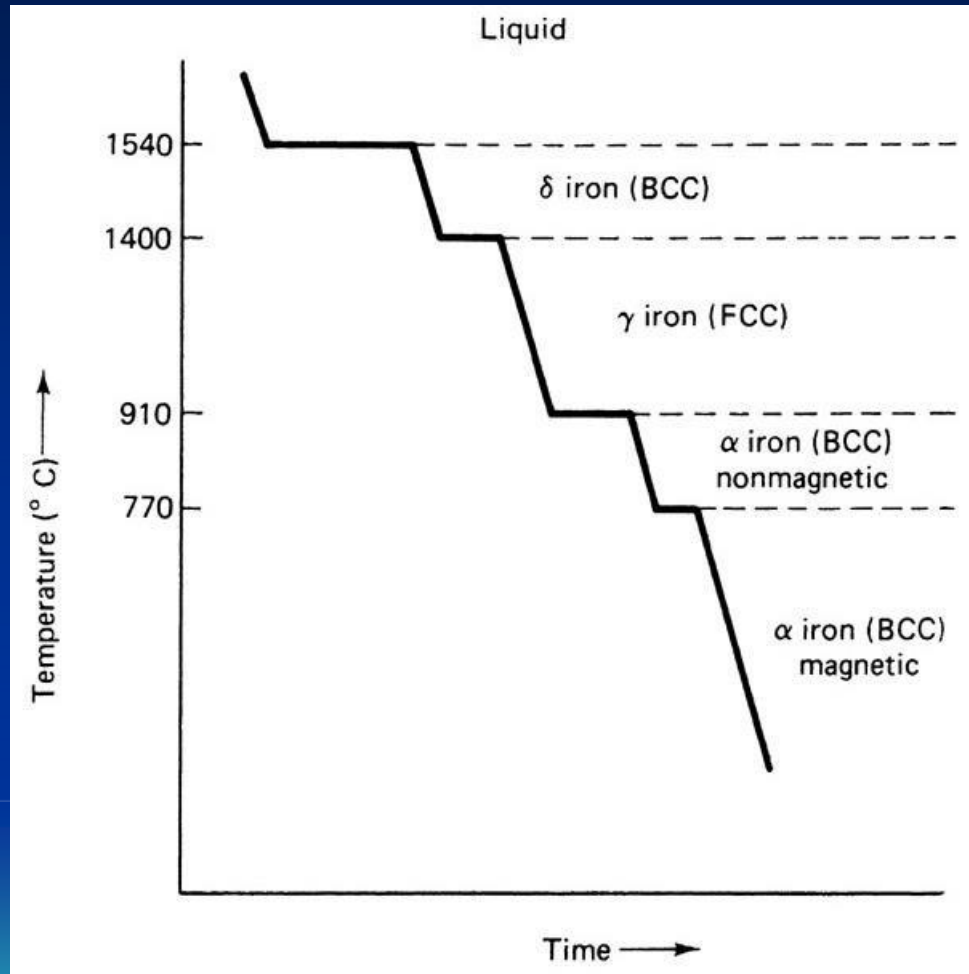

FIG. 3-50 (b) Cooling curve for pure iron.
FIG. 3-50 (1) Heat pure metal to point T_a ; (2) cooling of liquid metal $a-b$; (3) at point b , pure metal starts to precipitate out of solution; (4) point c , pure metal completely solid; curve from b to c straight horizontal line showing constant temperature T_{b-c} because thermal energy absorbed in change from liquid to solid; (5) more cooling of solid pure metal from c to d and temperature begins to fall again.
FIG. 3-50 (c) Cooling curve for a metal alloy: (1) The alloy A-B heated to point a (liquid phase, with both metals soluble in each other); (2) cooling of alloy in liquid phase; (3) point b , solidification begins; (4) point c , solidification complete; sloped $b - c$ due to changing from liquid to solid over the temperature range T_b to T_c because components A and B have different melting/cooling temperatures; (5) further cooling from c to d of solid-state metal alloy.